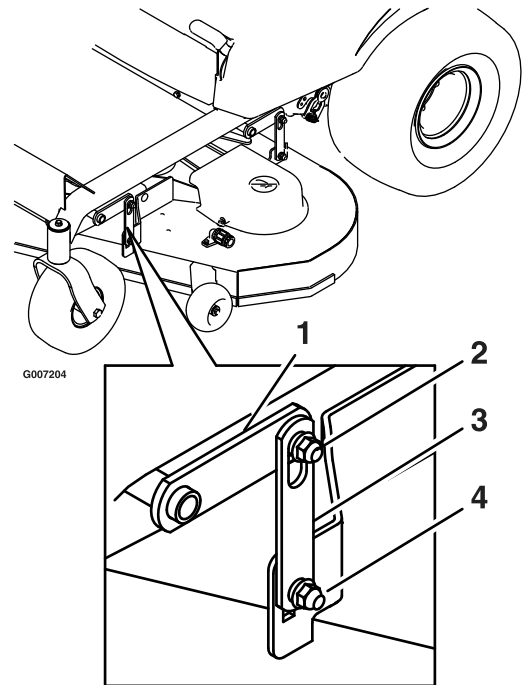

Figure 41
7. Loosen the leveling adjust locking nuts (item 4) on all four corners so that the deck is sitting securely on all four blocks. Make sure that the deck hangers are all the way down (at the top of the slot) and the deck lift foot lever is pushed back against the stop, then tighten the four leveling adjust locking nuts (Figure 41).